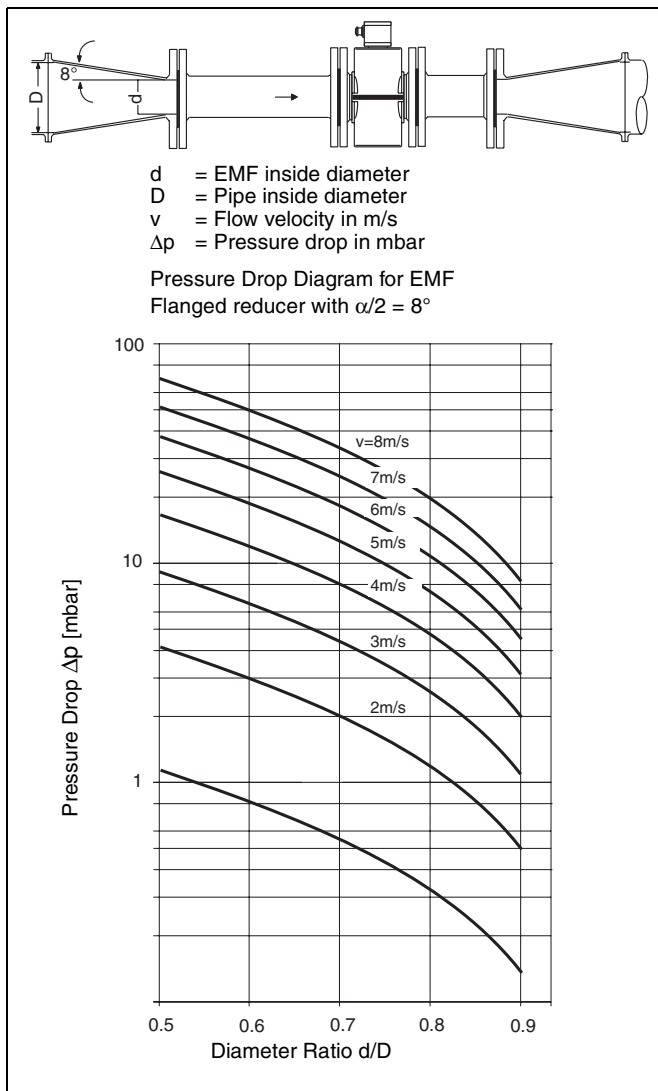

Fig. 6 Nomograph for Pressure Drop Determinations
The flowmeter primary can readily be installed in larger pipeline sizes by utilizing reducers (e.g. flanged reducers DIN 28545). The pressure drop which results from the reduction can be determined from the Nomograph Fig. 6. The pressure drop is determined in the following manner:
3. Read the pressure drop on the Y-Axis in Fig. 6 at the intersection of the "Diameter Ratio d/D " x-axis value and the flow velocity line.